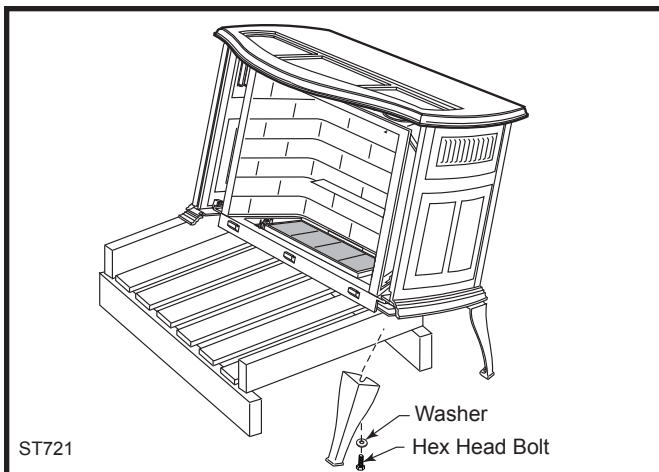

Fig. 8 Carefully tip stove onto back legs. Leave pallet under stove to keep stove from falling forward.
3. Carefully tip the stove onto its rear legs. Adjust the pallet to allow access to one of the front leg holes. Be sure to leave the pallet under the stove to prevent the stove from falling fully forward. (Fig. 8)